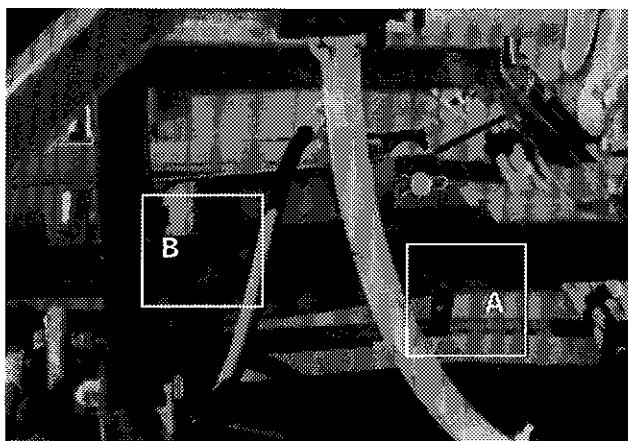

Figure 15
- 10) Check and if necessary, adjust the length of travel of the pusher by changing the position of lug "A" figure 15. To prevent bottomming of the piston, always keep  $\frac{1}{2}$ " to  $\frac{3}{4}$ " of travel at either end of the cylinders. The retracted position is adjusted in the same manner with lug "B" figure 15.